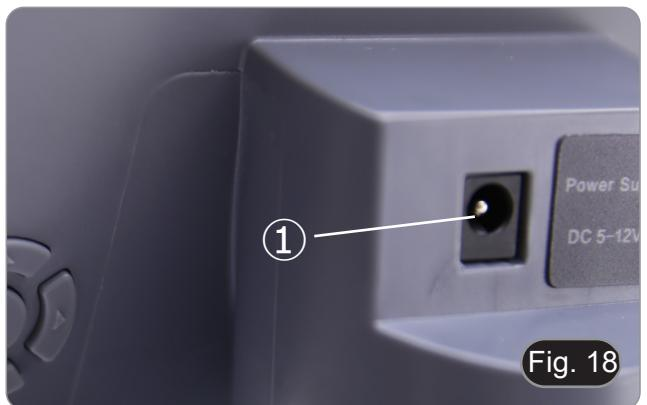

Fig. 18
1. Insert the power adapter into the power socket ① placed on the back side of the camera. (Fig. 18)